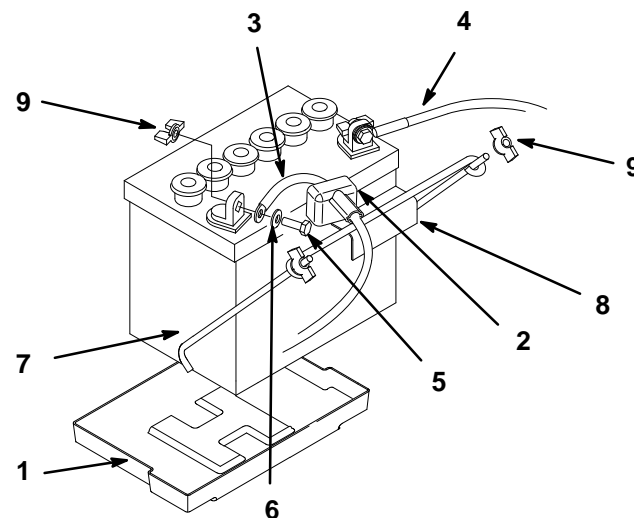

Figure 6
- Position battery in tray with terminal posts toward the engine (Fig. 6).
- Install the positive (red) battery cable to positive (+) battery terminal then negative battery cable to the negative (-) battery terminal. Secure cables with (2) 1/4 x 3/4" (19 mm) bolts 1/4" washers, 1/4" lock washers and 1/4" locknuts.
- Secure battery with (2) support rods, a battery clamp and (2) 1/4" wing nuts. Position support rods in mounting holes (Fig. 6). Tighten wing nuts so battery is held securely in position and will not slide. DO NOT OVERTIGHTEN.